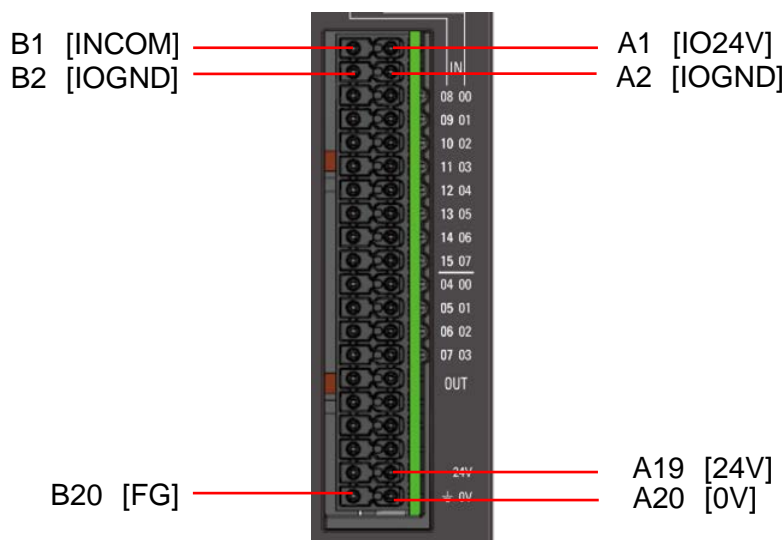

Fig 6.2: Power and I/O connector pin assignment
- Carefully refer to the Fig.6-2 to Fig.6-9, for wiring I/O correctly. Incorrect wiring may cause damage to the controller.